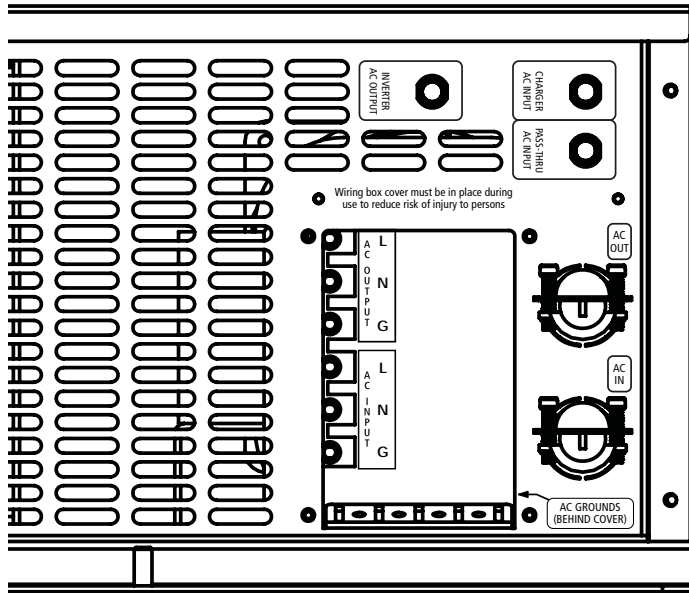

Figure 2 AC Wiring Compartment
AC Wiring Compartment For your reference, the AC wiring compartment is shown in Figure 2 on page 21.
Figure 2 shows the wiring compartment, which contains a grounding bus (used to wire the AC input and output ground wires) and a terminal block (used to wire the AC input and AC output connections).
8. Connect the line and neutral wires to the input terminals (labeled AC Input on the terminal block, Figure 2 on page 21). Connect Line to L, Neutral to N, and Ground to G.
5. Connect the line and neutral wires to the output terminals (labeled AC Output on the terminal block, Figure 2 on page 21) as follows: